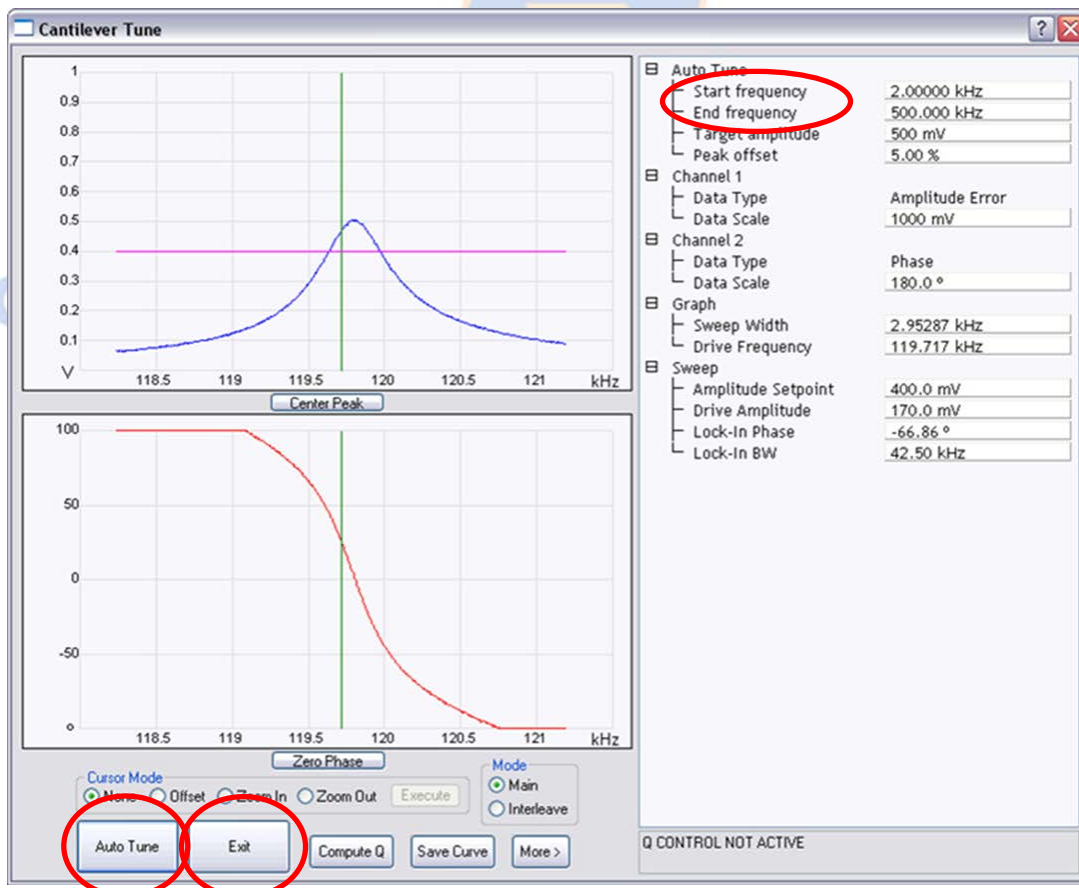

Figure 11. Probe cantilever tuning window with Start/End Frequency and AutoTune/Exit circled.
- b) Set the “Start Frequency” and “End Frequency” (Figure 11) to the low and high ends, respectively, of the recommended frequency range for the selected tip (see back of probe box). Good defaults to start with are 500 mV Target Amplitude, 5% Peak Offset, and 400 mV Amplitude Setpoint
- c) Click the “Auto Tune” icon (Figure 11) at the bottom of the screen. The probe cantilever will now be automatically tuned. The resulting resonant peak should be a single, relatively narrow Gaussian-like peak, but may be somewhat asymmetric. Pick an Amplitude Setpoint value (pink line) that is slightly below the tuning curve’s amplitude (blue trace) at the auto-selected Drive Frequency (green line), but not so close that there will be a false engage. The lower the amplitude setpoint, the harder the probe will engage the surface.